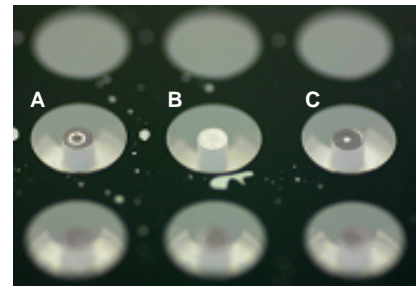

Figure 3. Stoppers that are A) Partially Sealed, B) Unsealed, & C) Completely Sealed
2. Visually inspect the underside of the populated 96-well plate to ensure that the Oris™ Cell Seeding Stoppers are firmly sealed against the bottom of the plate. To inspect the stoppers, turn the plate over and examine the stoppers for sealing (see Figure 3). If incomplete sealing is observed, return the plate to the upright position and use a sterile instrument to gently push the stopper back into the well until sealing is observed.
NOTE: the sealing of the stoppers can be most easily observed if the plate is tipped at an angle and viewed under indirect light looking for the bullseye pattern at the bottom of each well (see Figure 3).